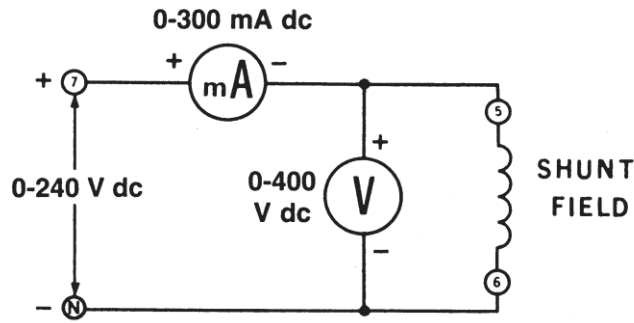

Figure 2-1.
G 6. You will now measure the resistance of each of the motor windings using the voltmeter-ammeter method. With this information you will calculate the power losses for each of the windings. Using your Power Supply, DC Voltmeter/Ammeter and DC Motor/Generator, connect the circuit shown in Figure 2-1.
- a. This is the same circuit as shown in Figure 2-1 except that the series field winding has replaced the shunt field winding and that the 1.5A dc meter has replaced the 0-3A dc meter.